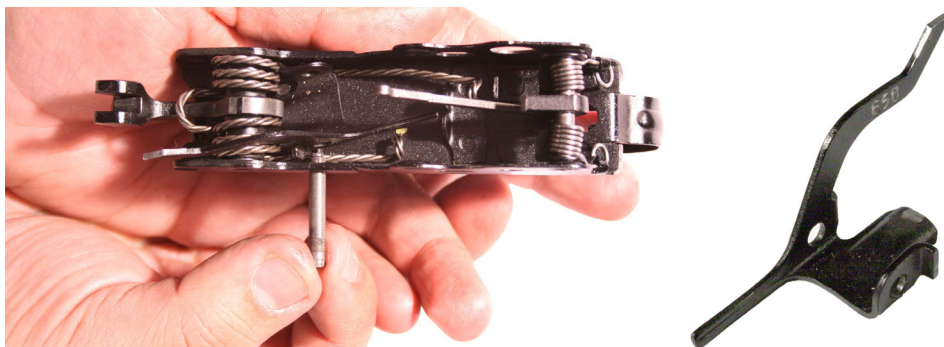

Figure 4. Remove the Retaining Pin from the Safety Sear and Remove the Safety Sear.
4. Remove the forward retaining pin, which is installed through the safety sear. Remove the safety sear. Refer to Figure 4.